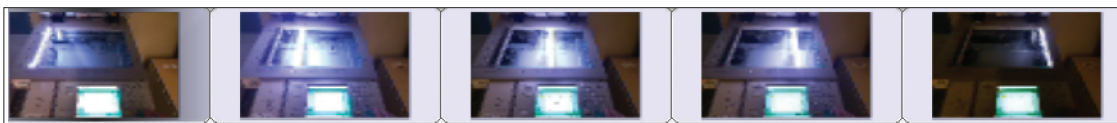

Fig. 9. A video recording of photocopier in action.
1. **Use a cellphone** or digital camera to make a video recording of your photocopier in action (see Fig. 9). Using the standard recording speed of 30 frames⁵ per second (fps), record the machine as it scans from one side of the bed to the other. Most beds are either tabloid size, 17.0 in (43.20 cm) long in the United States or Canada, or A3 size (420 mm or 16.54 in) in other countries.